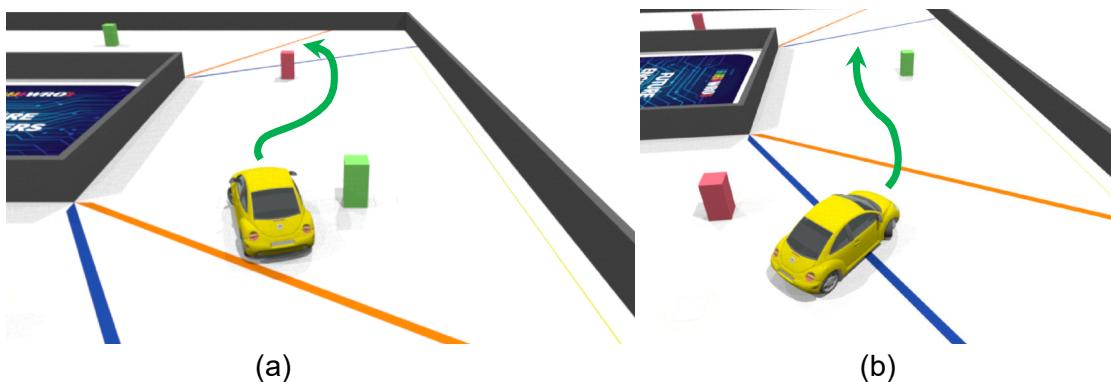

Figure 14. The rules to pass the traffic signs
- 8.18. The vehicle must pass the traffic sign represented by the red pillar on the right (the picture (a) on figure 14) and the traffic sign represented by the green pillar on the left (the picture (b) on figure 14).